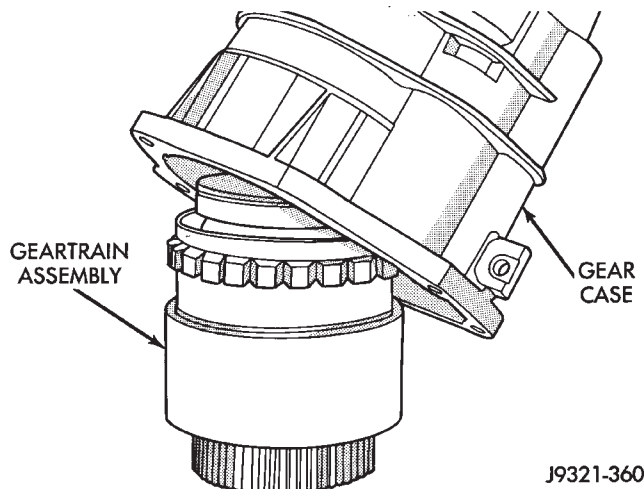

Fig. 259 Removing Gear Case From Geartrain Assembly
(6) Lift gear case up and off geartrain assembly (Fig. 259).